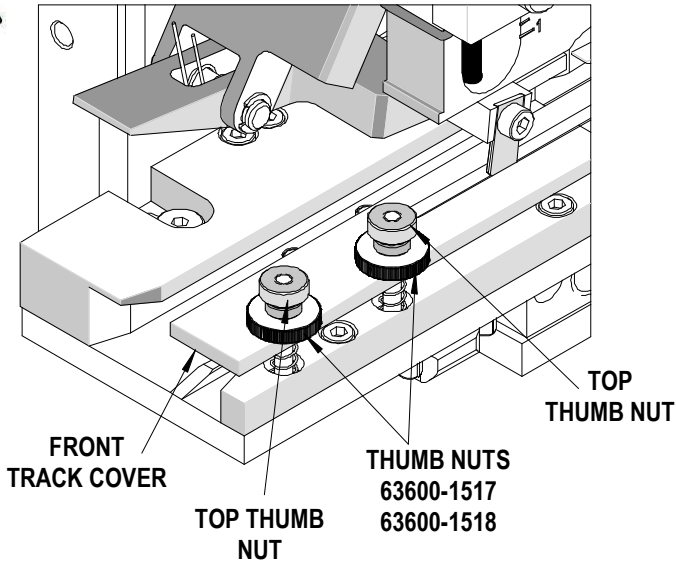

Figure 2-14
2. The front track cover (63801-4456) is adjusted up or down, depending on the diameter of the terminal barrel. See Figure 2-14.